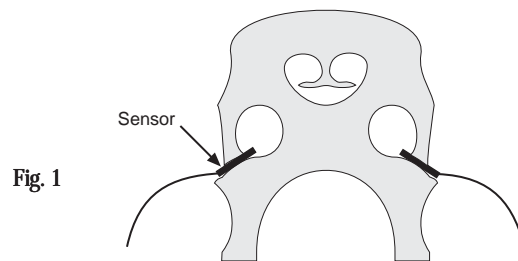

Fig. 1
1. Test fit sensors into the slot between the wing and foot. Pickup should fit tightly for best output (see Fig. 1).